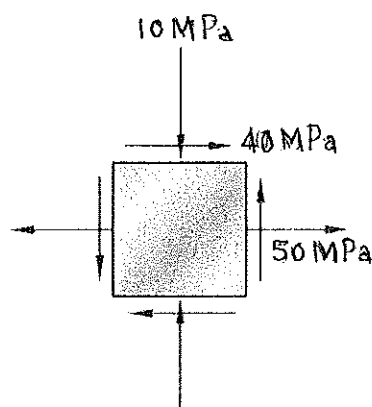

Fig.Q7
- a) For the state of plane stress shown in Fig. Q7, construct Mohr's circle.